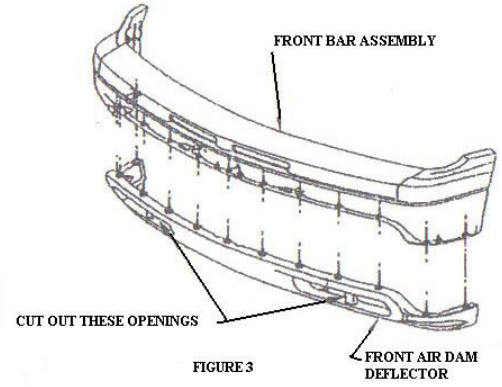

FIGURE 3
STEP 4 ATTACH BRACKETS TO FRAME USING 1/2" FASTENERS AS SHOWN. LEAVE LOOSE. **NOTE**, FOR VEHICLES W/OUT TOW HOOKS A SMALL OPENING MAY NEED TO BE CUT OUT IN THE TWO INSIDE INDENTS OF THE AIRDAM USING A UTILITY KNIFE. SEE FIGURE 3.